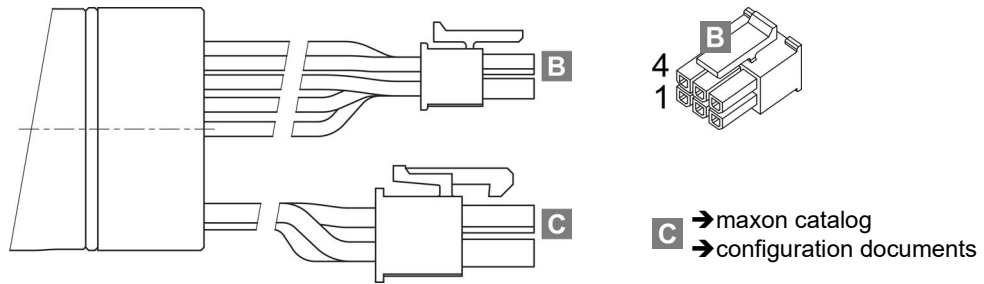

Figure 18 ENX 13 | 16 | 22 COMM – Cable Plugs
- Hall sensors with plug / Motor with plug (→Figure 18)